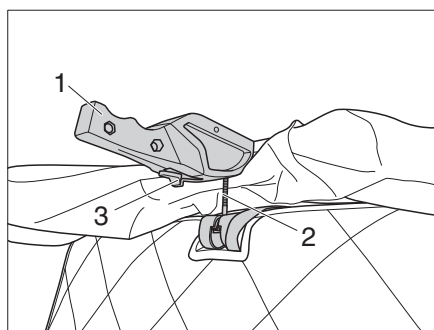

Fig. 18 Releasing the locking mechanisms
- Push forward the locking lever (Fig. 18,3) and at the same time pull down the lock (Fig. 18,1) on the left and right.
- Remove the pin (Fig. 18,2) from the holder.